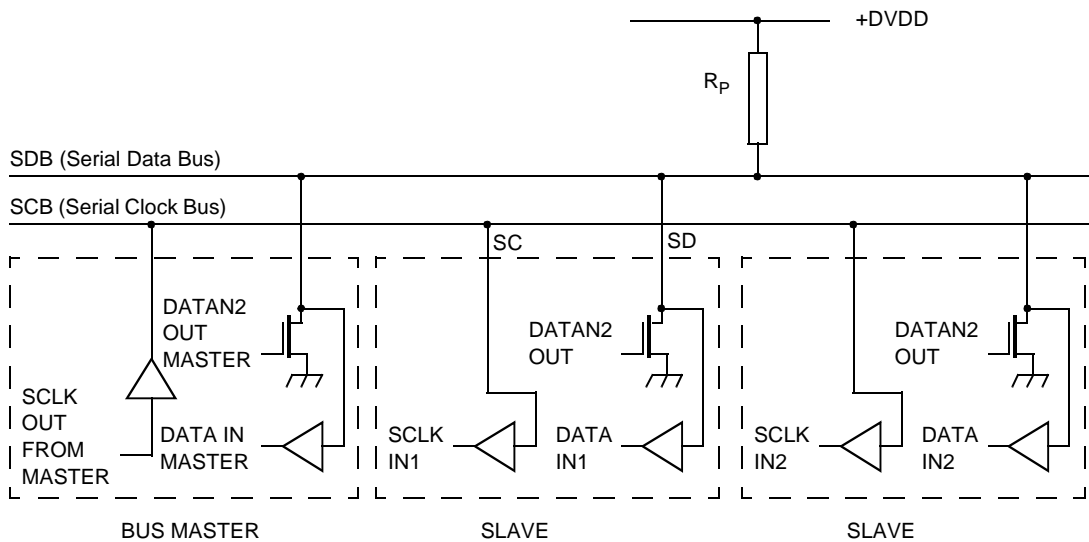

Figure 19: Connection of Devices to the Bus
The CH7005 contains a standard I²C control port, through which the control registers can be written and read. This port is comprised of a two-wire serial interface, pins SD (bidirectional) and SC, which can be connected directly to the SDB and SCB buses as shown in **Figure 19**.
The Serial Clock line (SC) is input only and is driven by the output buffer of the master device (also shown in **Figure 19**). The CH7005 acts as a slave, and generation of clock signals on the bus is always the responsibility of the master device. When the bus is free, both lines are HIGH. The output stages of devices connected to the bus must have an open-drain or open-collector to perform the wired-AND function. Data on the bus can be transferred up to 400 kbit/s.
The electrical specifications of the bus devices’ inputs and outputs and the characteristics of the bus lines connected to them are shown in **Figure 19**. A pull-up resistor (R_p) must be connected to a $3.3V \pm 10\%$ supply. The CH7005 is a device with input levels related to DVDD.